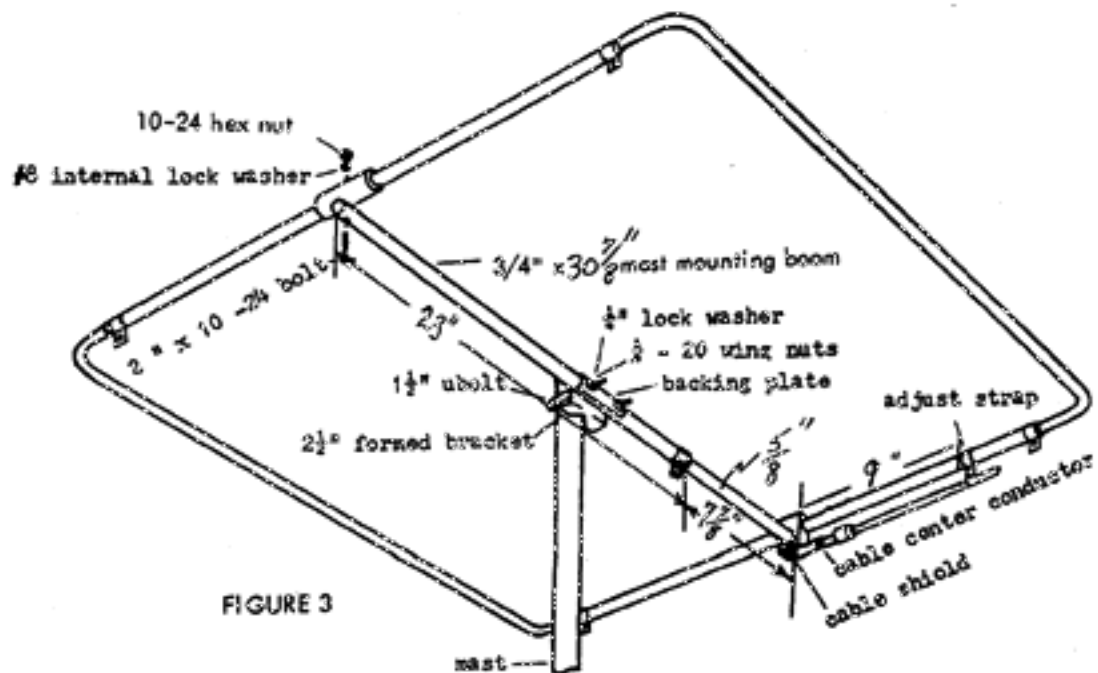

FIGURE 3
- (1) Assemble the Squalo by following step #2 of the car top mounting instructions. The approximate setting, dimension A, is figure 3. For mast mounting, the machined aluminum block should be vertical, with the Reddi Match below the 5/8" tubing, figure 3.
- (2) Insert one end of the 3/4" x 30 7/8" mast mounting support into the machined block and tighten the set screw. attach the free end of the mast mount support to the insulator, figure 3.
- (3) Mount the Squalo on your mast. Attach the feed line to the Reddi Match. Run the coax along the mast mounting boom, and down the mast, figure 3.